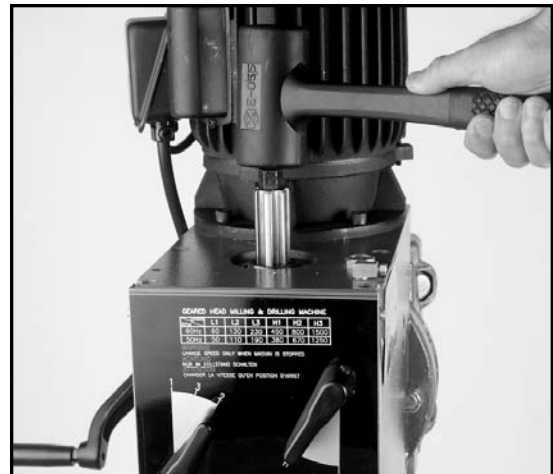

Figure 5
2. Tap on the top of the drawbar with a mallet. See Figure 5.